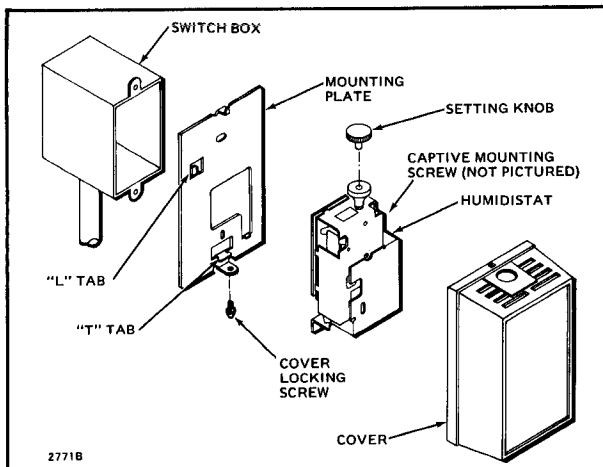

FIG. 2—MOUNTING OF H600A.
1. Remove the mounting plate from the control assembly by loosening the captive mounting screw (Fig. 2). Slide control to the right and lift up.